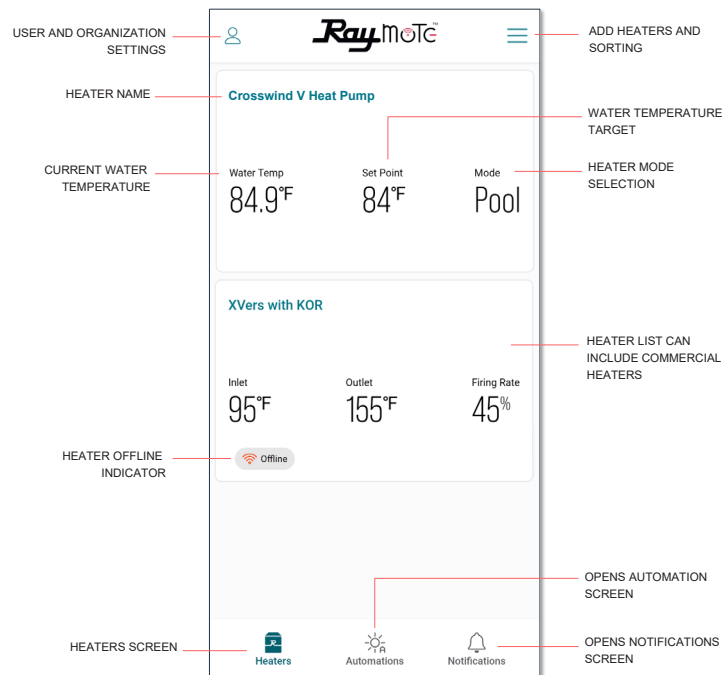

Figure 89. Main View - Heaters List
- Raymote organization list can handle 1 or multiple Commercial and Residential Raypak heaters equipped with Raymote. See Figure 89.